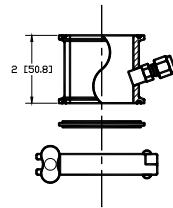

Figure 6
- Air Purge - used in installation where process material is likely to collect in the process pressure take-off. The use of a low pressure, continuous flow of air is used to help prevent material build-up that may cause false pressure readings. Such false pressure readings may result in either failure of the system to recognize an impending explosion or false activation of the system. (see Figure 6)